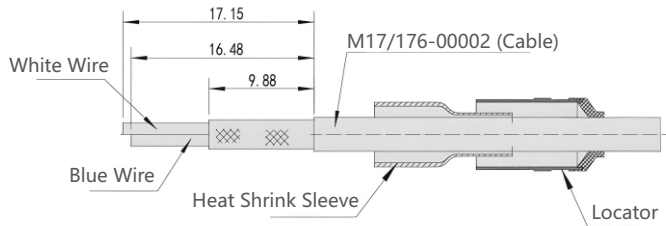

Figure3.1
①As shown in Figure 3.1, proceed as follows: